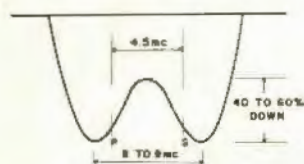
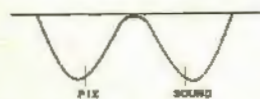
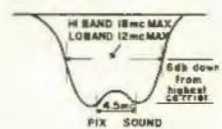

Fig. 5—Response curve with antenna swamped by a resistor.
Fig. 6—Response curve during neutralization adjustment.
Fig. 7—Response curve when tuner is properly aligned.
- 7—Adjust C_7 and C_{12} (see Fig. 2) for response curve shown in Fig. 5.
Note: Ultimately, adjustments will be made to achieve the curve shown in Fig. 7. At this time, however, the response curve (Fig. 5) will be much wider and deeper because the antenna circuit is temporarily loaded with a 22 ohm resistor. The purpose of this resistor is to prevent curve distortion due to the effect of the input circuit. The 22 ohm resistor reduces the input circuit Q to a negligible value.
- 12—Adjust the neutralizing trimmer, C_{20} (7) located inside the tuner. Adjust C_{20} for minimum gain between markers as shown in Fig. 6.
- 15—Replace bottom cover assembly (10).
- 16—Adjust antenna coil by compressing or spreading the turns through a rectangular hole in the bottom cover assembly (10). The rectangular hole is shown in Fig. 2. Adjust the coil for maximum gain and a response curve similar to that shown in Fig. 7.
Note: If it is impossible to obtain a passband within the limits shown in Fig. 7, it will be necessary to adjust the inductance of plate coil L_4 , or mixer coil, L_3 . This can be done by applying a small amount of acetone to the coil winding and compressing or spreading the turns as required.